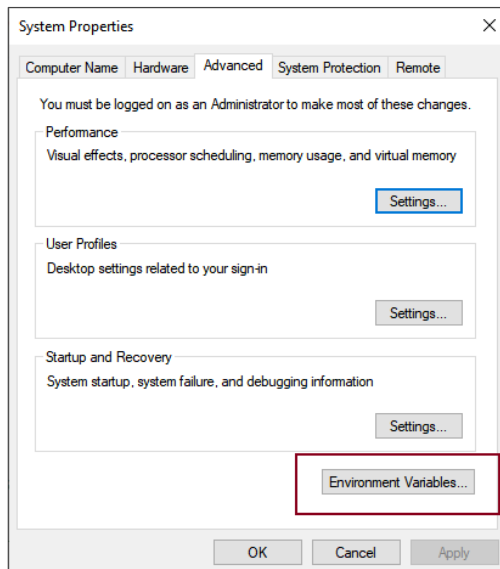

Figure 12. Advanced System Settings panel in Windows
- Open Control Panel → System → Advanced System Settings and click on the "Environment Variables..." button, as shown in Figure 12.